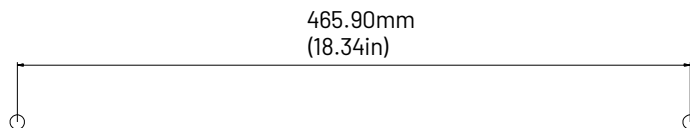

Figure 4-9
(3) Check the 4G/WiFi antenna is installed. If it is not installed, the antenna needs to be connected, as shown in the red circle circled above.
(4) Drill holes on the wall, $\Phi 11$ mm in diameter and 50mm deep. Refer to Figure 4-9.